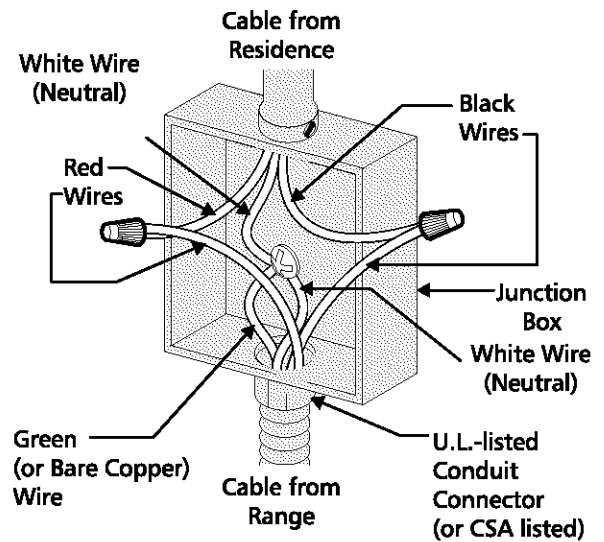

Figure 2
### Where local codes permit connecting the cabinet-grounding conductor to the neutral (white) junction box wire (see Figure 2)
2. In the circuit breaker, fuse box or junction box: connect the appliance and the residence cable wires as shown in figure 2.